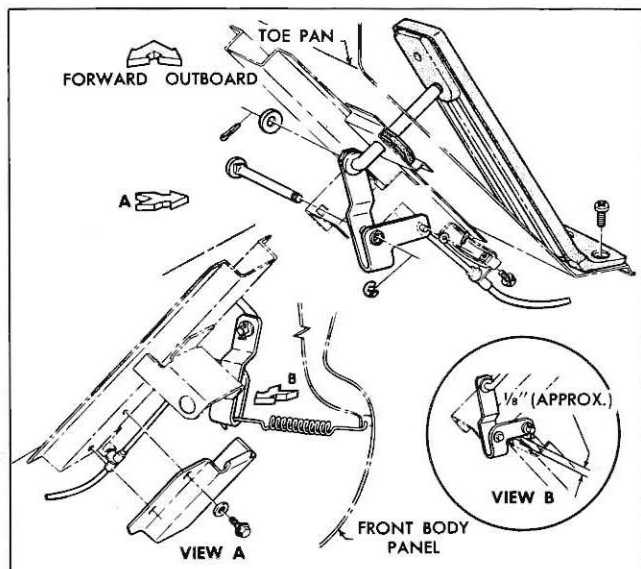

Fig. 2—Acceleration Linkage—Pedal End
5. Check clearance between accelerator lever and cable shield (shown in View B, Figure 2) while holding the lever arm upward to remove play. Clearance should be approximately 1/8". Adjust, if necessary, by moving the shield in the desired direction and retighten the two mounting screws.